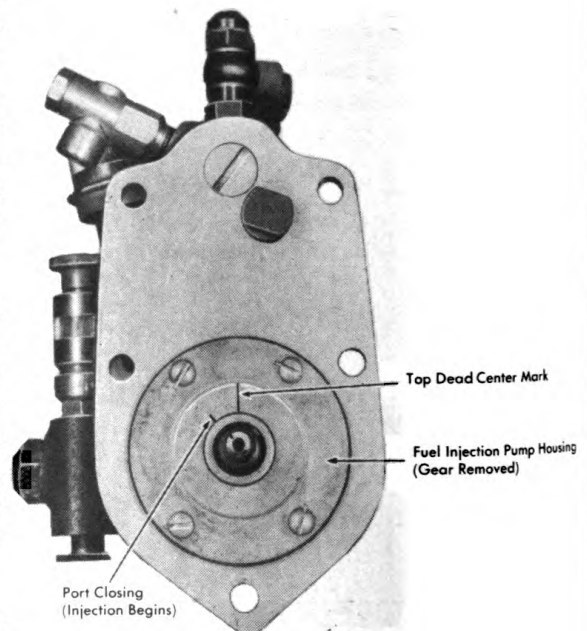

Figure 325. Timing Marks on Fuel Injection Pump Housing.
4. There are two marks on the pump housing immediately in back of the gear hub. The one is vertical and indicates the top dead center of the pump. The other is to the left of the vertical mark about $1/8$ of a turn and indicates port closing or the beginning of the injection. See Figure 325. This latter mark must center in the gear hub timing hole. If necessary, turn the gear hub until this timing mark is in the center of the hole. The injection pump is now in time with the engine. Tighten the capscrews.